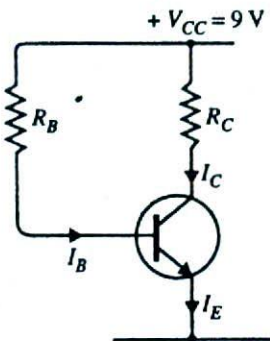

Fig. 11.33
3. Fig. 11.33 shows biasing by base resistor method. If it is required to set the operating point at 1mA, 6 V, find the values of R_C and R_B . Given $\beta = 150$, $V_{BE} = 0.3 \text{ V}$. [$R_C = 3 \text{ k}\Omega$, $R_B = 0.3 \text{ M}\Omega$]